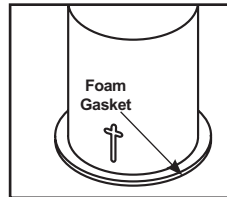

Figure 3
**Step 2.** Locate Air-Loc gasket kit envelope supplied in fixture carton (no Air-Loc gasket for 4"). Place foam gasket on the top surface of the metal ring of can (Fig 3).